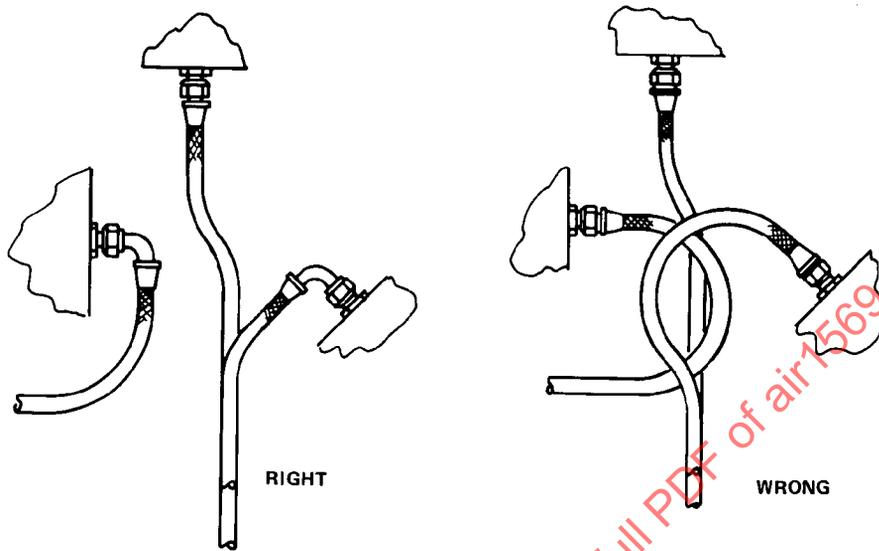

FIGURE 11
5.2.8.1 Direct Routing: Excessive slack in hose lines is one of the most common causes of poor appearance, and many times contributes to abrasion. (See Fig. 11).